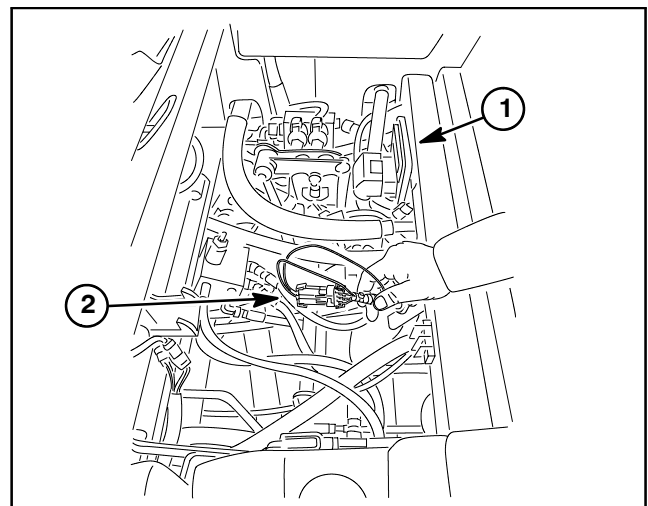

Figure 9
- The loopback connector is not connected to the machine wire harness (Fig. 9).